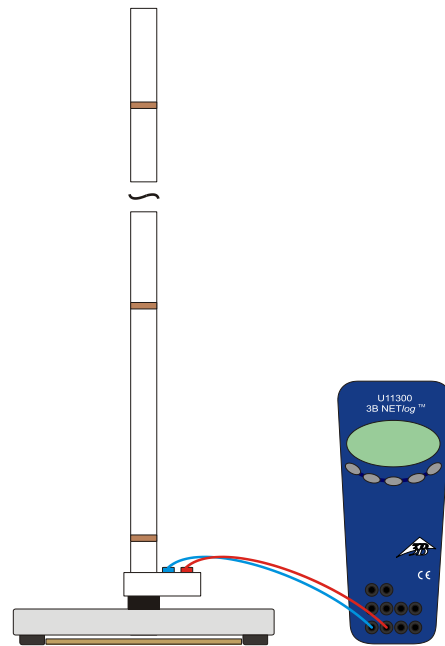

Fig. 1 Experiment set-up
- Set up the experiment as shown in fig. 1.